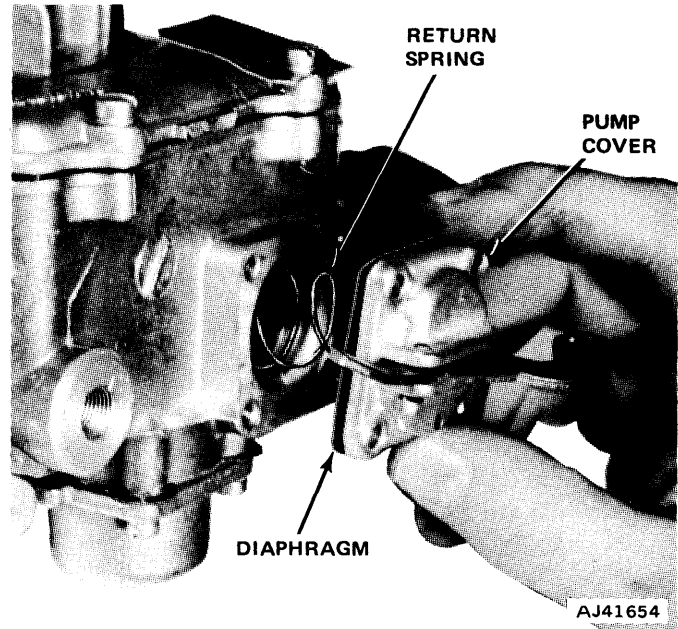

Fig. 4-76 Removing Accelerator Pump Assembly
(16) Disconnect accelerator pump operating rod from overtravel lever. Remove rod and retainer.
(17) Remove accelerating pump cover attaching screws. Remove accelerating pump cover, diaphragm assembly, and spring (fig. 4-76).
(18) Remove Elastomer valve by grasping firmly and pulling out.